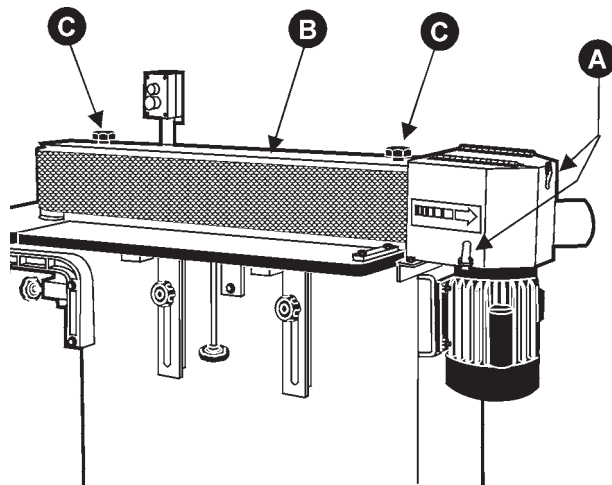

FIGURE 1
1. Loosen the two latches (A), on the dust chute, and open the dust hood, Figure 1.
2. Remove the sanding belt safety guard (B) by removing the two knobs (C) which are on the guard.